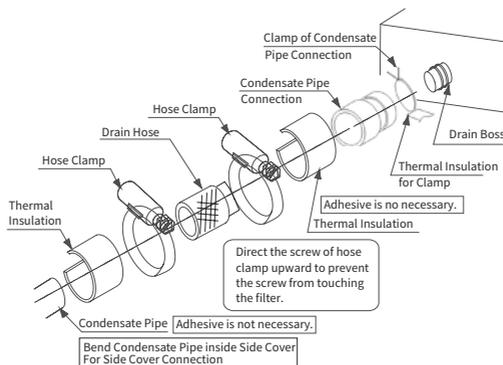

Fig.6.1 Connecting Drain Piping
(2) Piping work should be performed under the unit. Open the air inlet grille as is shown in Fig.6.1 of section 1 and remove the side cover as is shown in Fig.3.2 before the piping work.
(1) For Right Side Connection
- Tighten the screw for the hose clamp in order to hold the hose around the drain connection without any leakage of drain water as shown in Fig.6.1.
- Insulate the drain hose around the hose clamp to prevent any condensation as shown in Fig. 6.1.